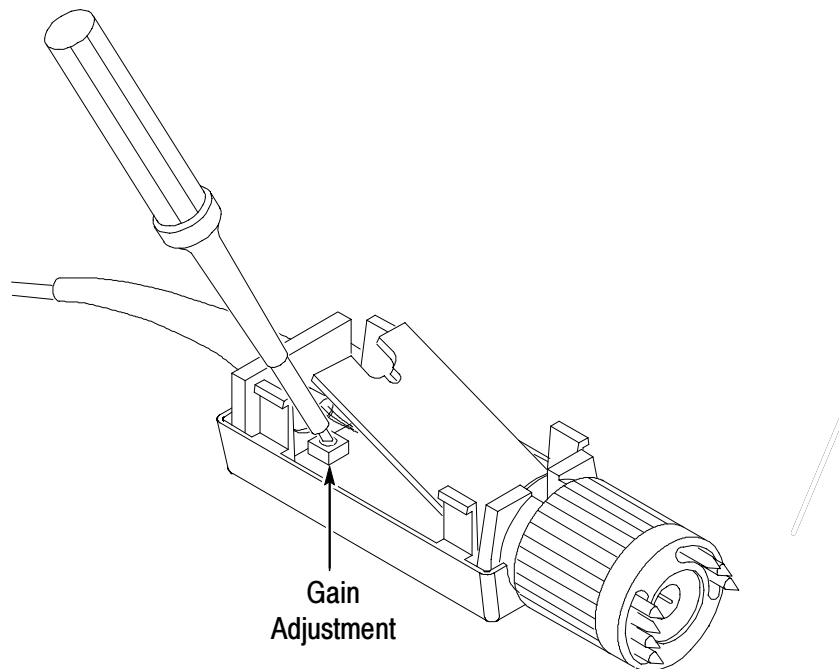

Figure 23: Accessing the Gain Adjustment
2. Carefully lift the back edge of the circuit board to access the gain adjustment. Refer to Figure 23.